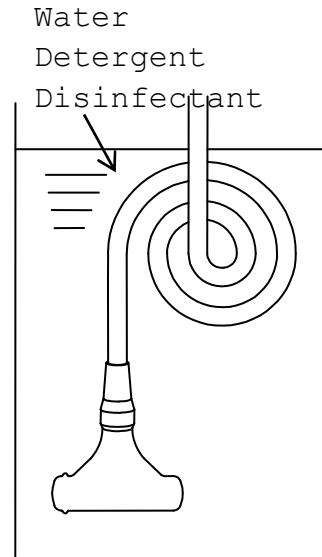

Fig.3 Immersion of the Probe
- 2) Immerse the immersible part of the probe without connector into the diluted detergent solution (see Figure 3). Wipe the immersible part of the probe under the surface of the detergent solution with a soft cloth to remove all visible soil. Be sure that all grooves of the probe are implemented during the cleaning process.
- 5) Rinse the probe with running tap water for 1 minute. (alternatively: immerse the immersible part of the probe in a tray filled with deionized water/tap water (see Fig.3) for 5 min.)
- 3) Immerse the immersible part of the probe into the disinfectant (see Fig. 3). Set a clock to insure the recommended contact time which is 5 minutes.
- 4) Rinse the immersible part of the probe with deionized water for 1 minute. (alternatively: immerse the immersible part of the probe in a tray filled with deionized water (see figure 3) for 5 min.)